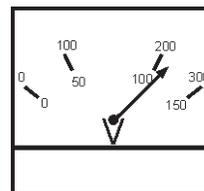

Figure 53. Voltmeter
11. The generator's voltage meter (Figure 53) displays the 120 VAC in **VOLTS**. If the voltage is not within the specified frequency tolerance, use the voltage adjustment control knob (Figure 54) to increase or decrease the desired voltage.